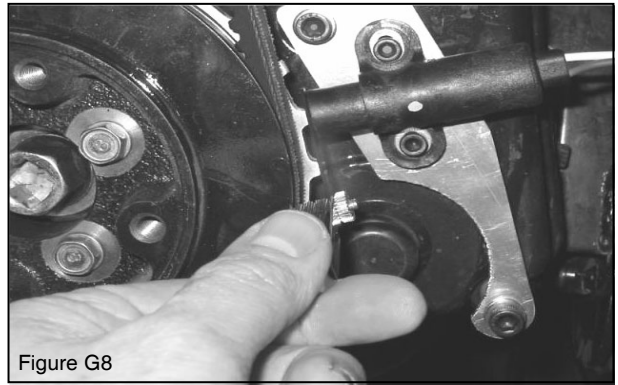

Figure G8
9. Using a feeler gauge (Figure G8), loosen the sensor retaining bolts and adjust the gap between the sensor and the gear tooth from 1.25mm to 1.5mm. Re-tighten the sensor retaining bolts when complete.